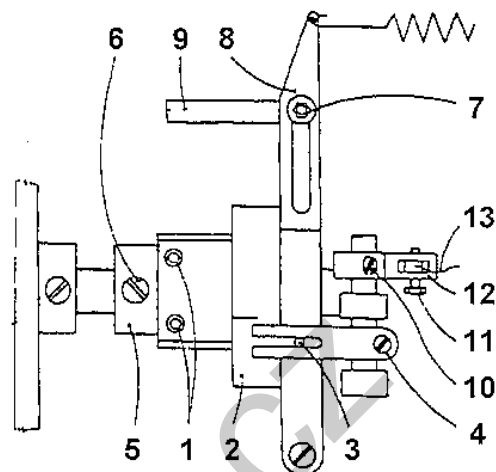

Fig. 16
23. To time the trimmer actuating cam (Fig. 16)
25. To adjust the stroke of the drawing hook (Fig. 16)
27. To adjust the loosening of the upper thread tensioner (Fig. 16)